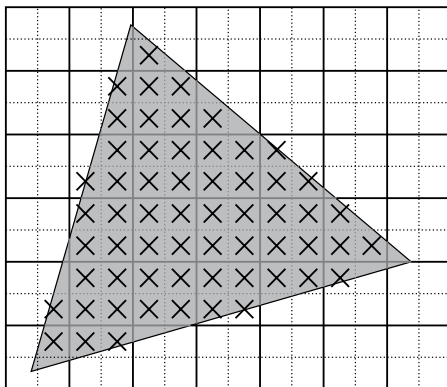

FIGURE 10-12: Rasterisation. The crosses indicate primitive samples that will be shaded during fragment processing.
2. **Rasterisation:** Shapes are converted to collections of pixels to be displayed on screen or processed in further rendering steps (see Figure 10-12).